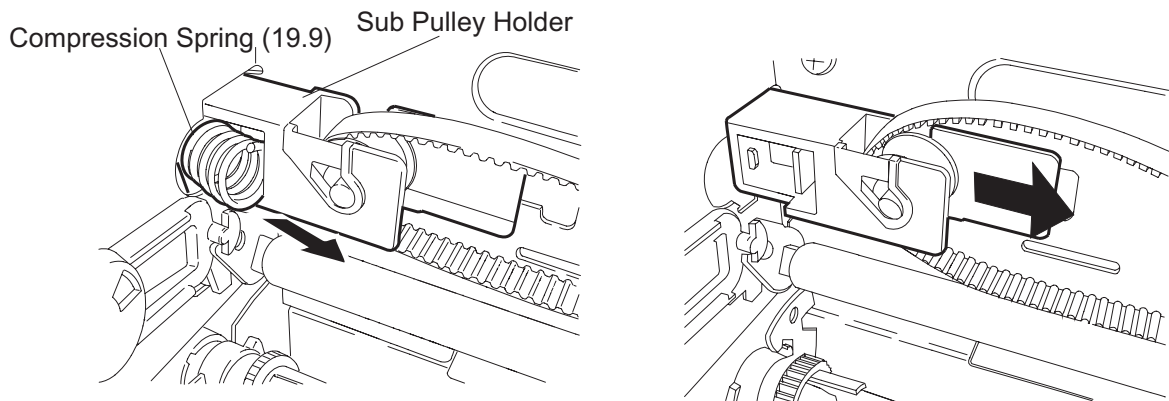

Figure 3-47. Sub Pulley Holder Removal
7. Remove the compression spring (19.9 g) using tweezers. Then shift the sub pulley holder to the right and remove it from the top frame. (Refer to Figure 3-47.)